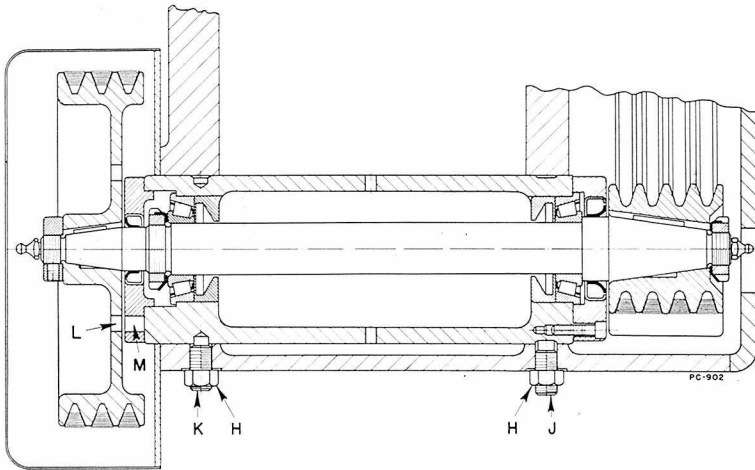

Figure 32
1. Loosen the lock nuts "H", back off screw "J" and remove screw "K" (Figure 32).